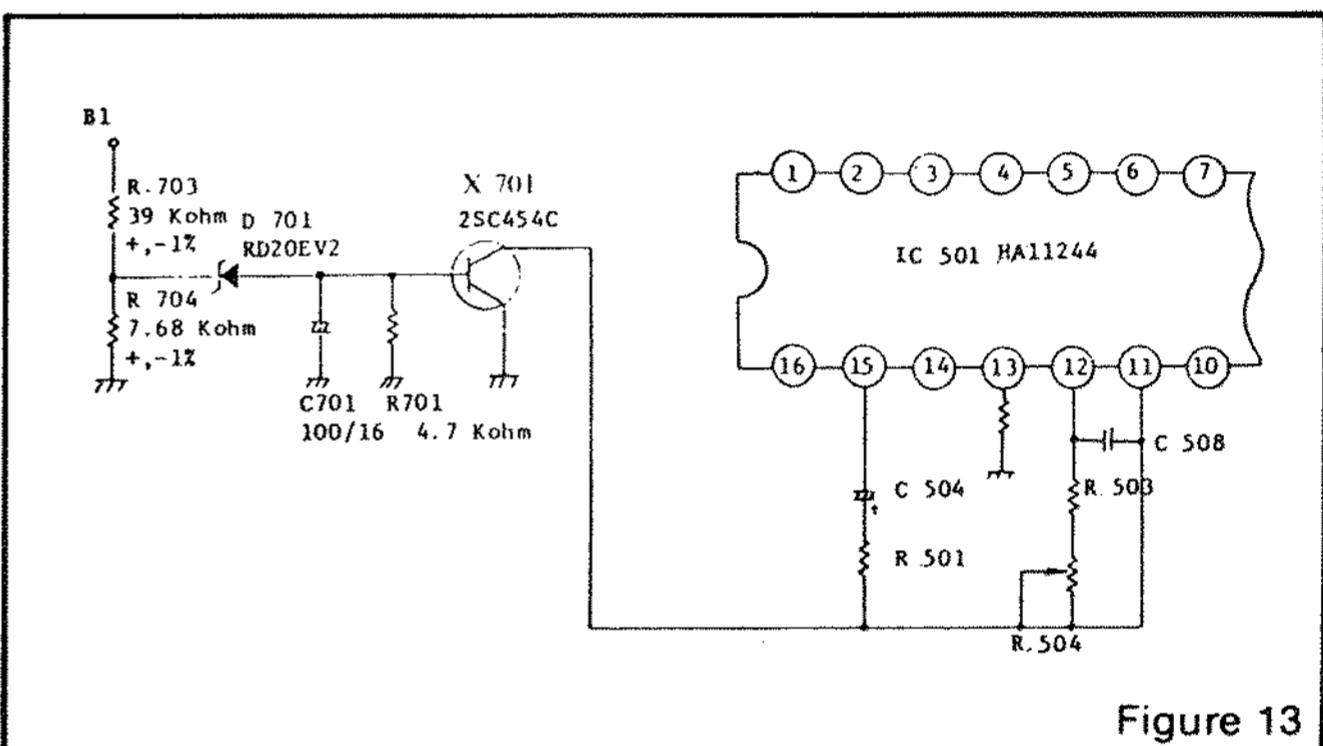

Figure 13
The protector circuit consists of the components shown below in Fig. 13 with a circuit description.
7. Insert service tip "N" on Neck circuit board to "S" on Vert./Horiz. circuit board (See Fig. 13). To check, use the Green raster at low intensity. Be sure to return the service tips to their original positions for the next check.